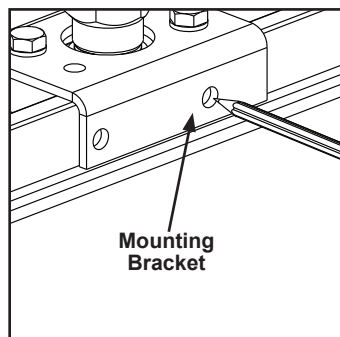

Figure 3-27
- Step 1. Use rail mounting bracket as template to mark rail. See Figure 3-27.